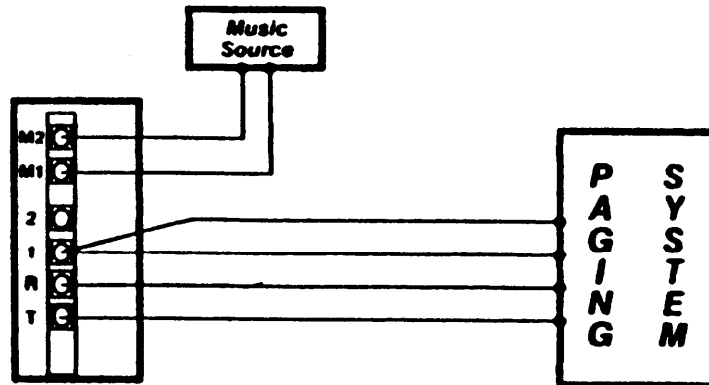

Figure 7
2. Wrap the loose end of wire connected to Tip on your paging system clockwise around the T terminal (Figure 7).
3. Wrap the loose end of the wire connected to Ring on the paging system clockwise around the R terminal (Figure 7).
4. Wrap the loose ends of both wires connected to the switched contact closure connections on the paging system clockwise around the 1 terminal (Figure 7).